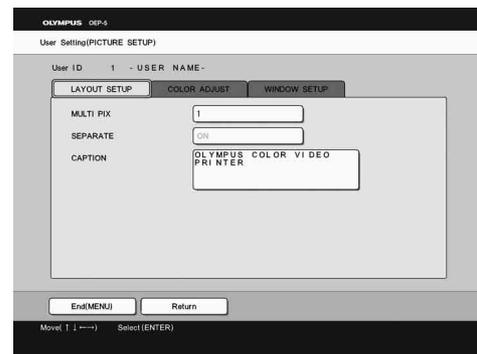

Figure 5.13
- 3 Press “◀” or “▶” to display the “LAYOUT SETUP” menu (see Figure 5.13).